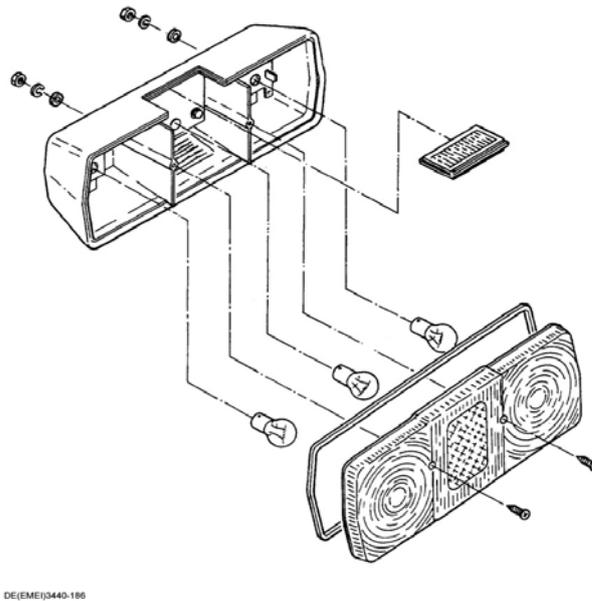

Figure 184 Stop/Tail, Reversing and Indicator Light Exploded View
- Replace the bulb as required (Figure 184).